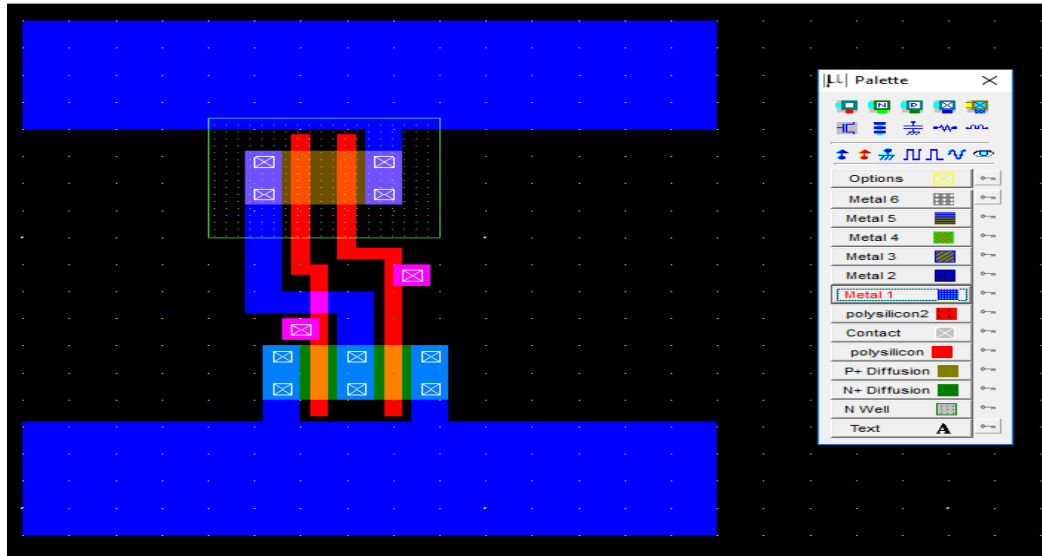

Figure 40: insert poly/metal1 contact
- Observe the two inputs (left & right) and an output (middle) above the Vdd rail in dark blue color. See figure 40: